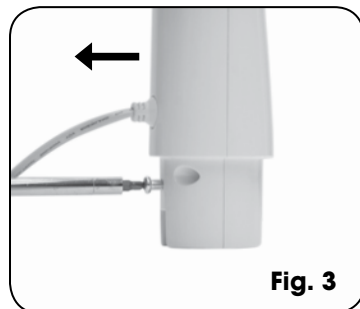

Fig. 3
3. Unscrew the fastening screw located on the back of the pedestal stand bottom using a screwdriver (See Fig 3).